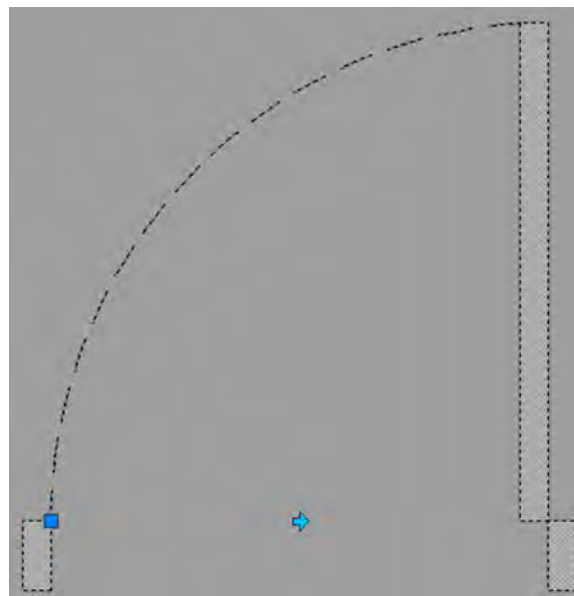

FIGURE 7.18
- Step 4.** As a final step, press the Test Block button at the upper left of the Ribbon. This takes you into an intermediate area (still in block edit mode) where you can test out what you have done. In our case here, click on the door and you see a blue arrow pointing to the left at the bottom. Click on that and the door's swing flips around (Figure 7.18).